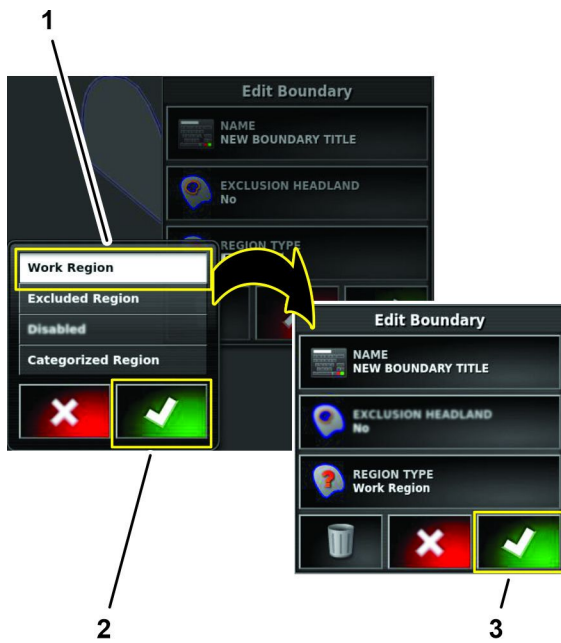

Figure 60
2. In the regions type dialog box, press the WORK REGION icon, and press the confirm icon (Figure 60).
3. In the edit boundary dialog box, press the confirm icon (Figure 60).